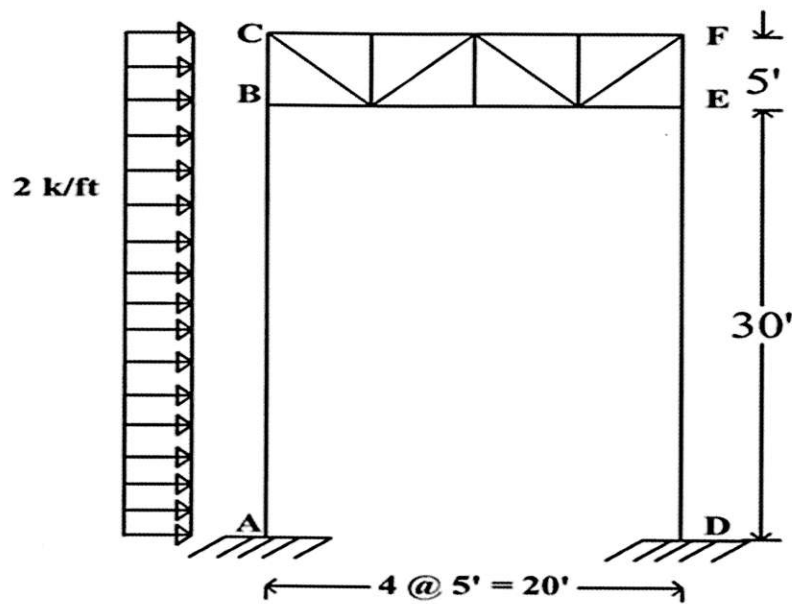

Figure 4
4. Using **Approximate Method**, draw shear force and bending moment diagrams for columns ABC and DEF of the mill bent shown in **Figure 4**.